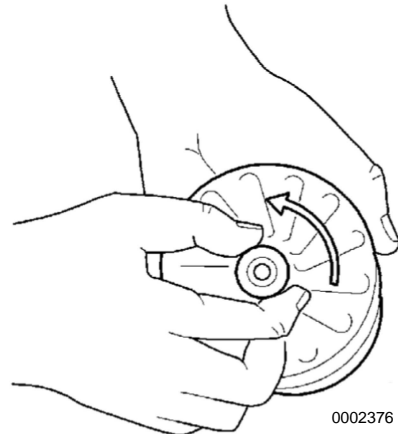

Figure 4
2. Lift out the rotor and turn the nut on the rotor bowl counterclockwise three turns (**Figure 4**).